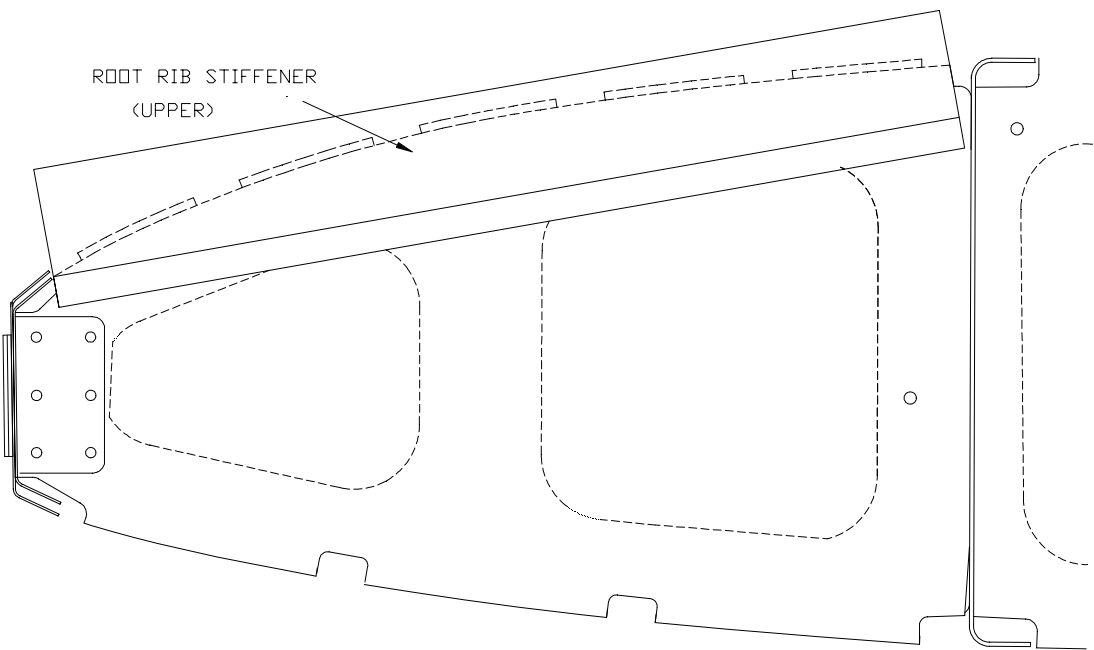

Figure 8.13.1
- 2) Hold a Root Rib Stiffener (W-142) against the Leading Edge Root Rib. Trim length to suit. Figure 8.13.1.